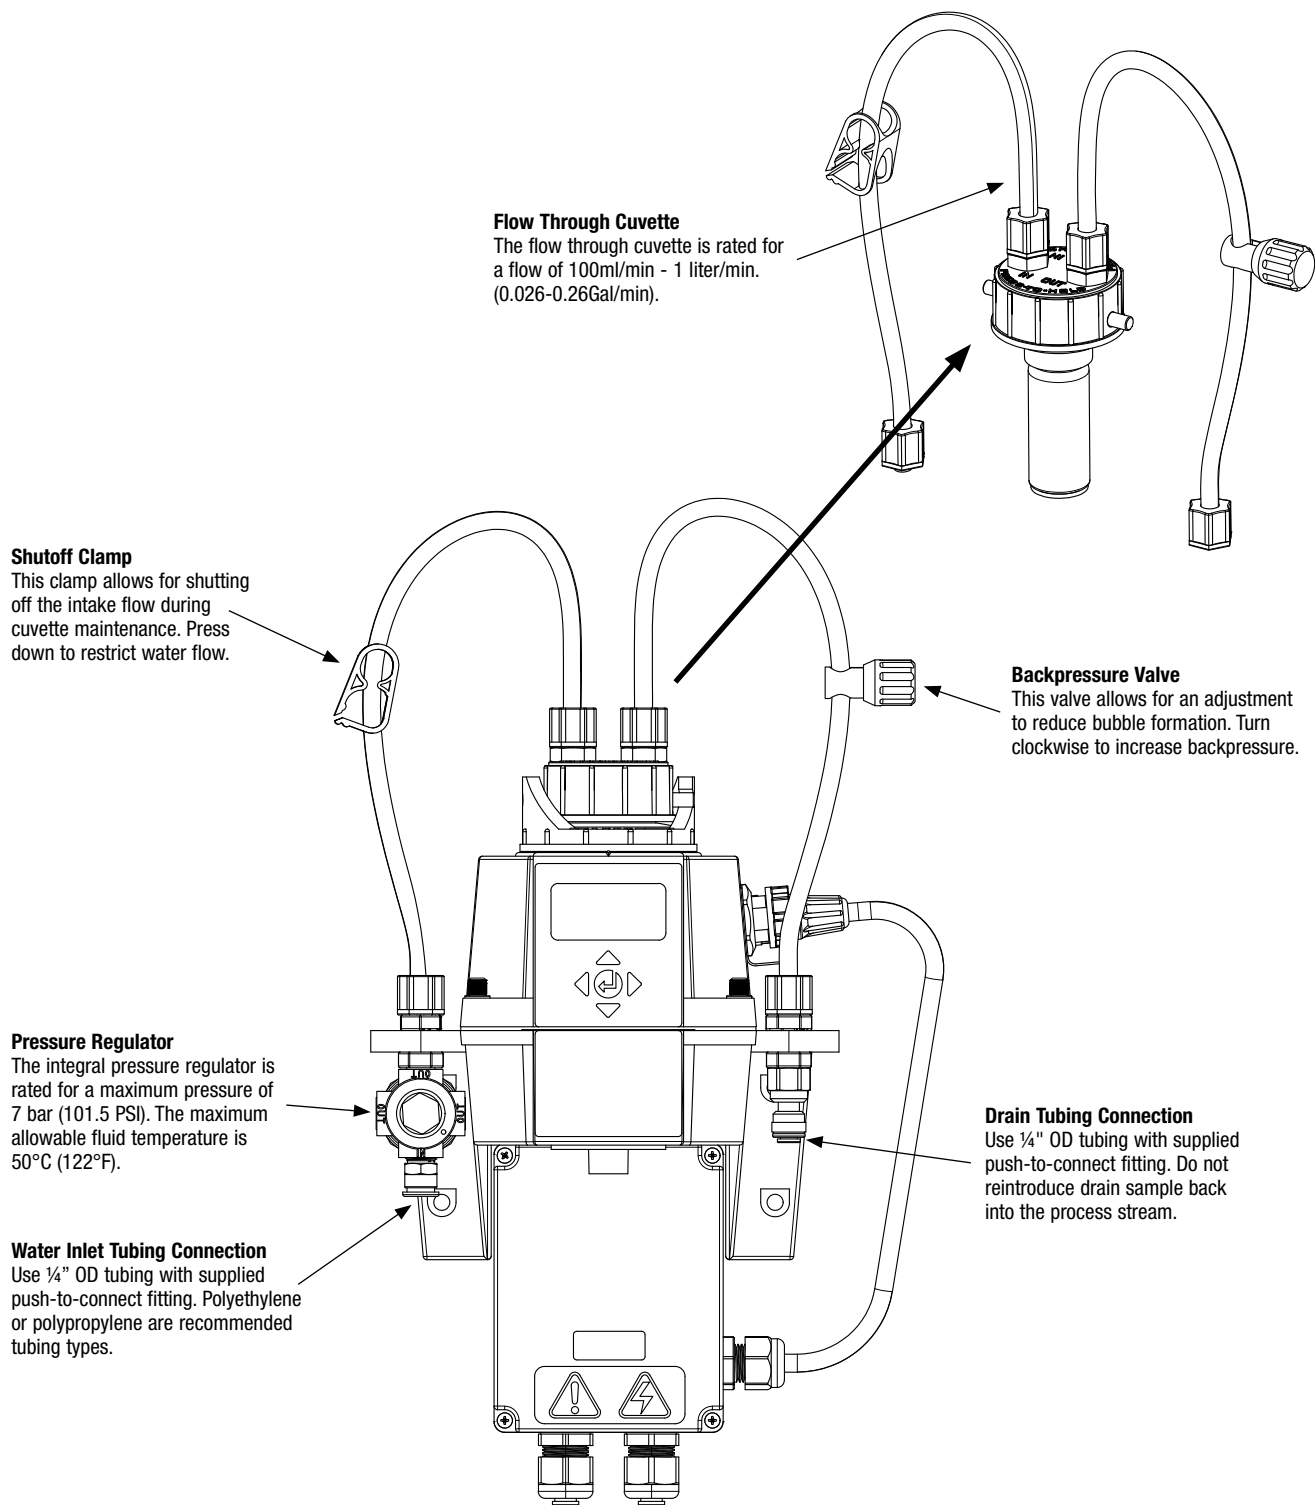

Figure 4: Instrument parts identification
5. Push the tube into the Quick-Connect fitting on the right facing side of the MTOL+, as shown in Figure 4.
5. Push the tube into the Quick-Connect fitting on the left facing side of the MTOL+, as shown in Figure 4.